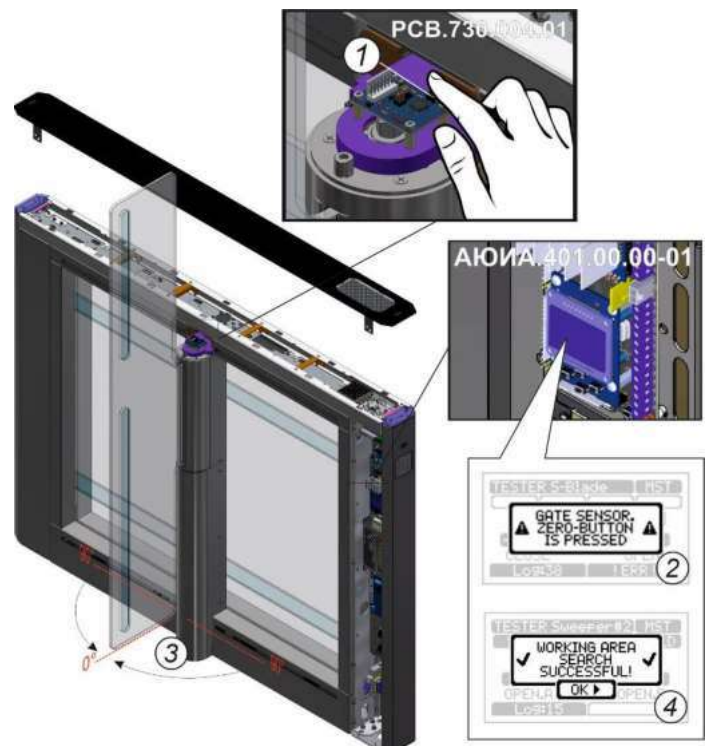

Fig.25 –Adjustment of the leaf zero position using the "zero" button
**Option 1: (with PCB 730.004.01 fig.25)**
- Press and hold the **ZERO (1)** button on the PCB.730.004.01 controller of the leaf magnetic sensor. The turnstile will go into «**OFF**» mode and a message (2) «*gate sensor zero-button is pressed*» will appear on the display of the AUIA.401.00.00-01 controller.
- While holding the **ZERO (1)** button manually set the zero point of both leaves of Master and Slave cabinets (**CLOSE position (3)**)
- After releasing the **ZERO (1)** button the turnstile will save the user-set point as zero (**CLOSE position (3)**).